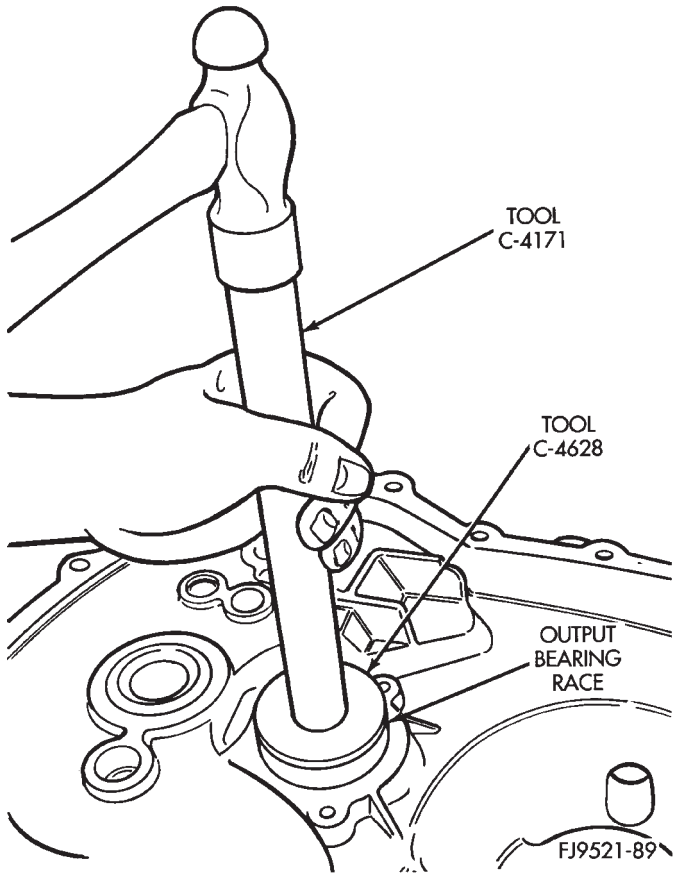

Fig. 135 Output Bearing Race Installation
- (1) Line up output bearing race to race bore.
- (2) Insert tool #4628 with C-4171 into output bearing race (Fig. 135). Tap race into bore. Install output bearing into race. Verify that the larger diameter cage is facing outward. Position bearing retaining strap. Tighten bolts to 11 N·m (96 in. lbs.).